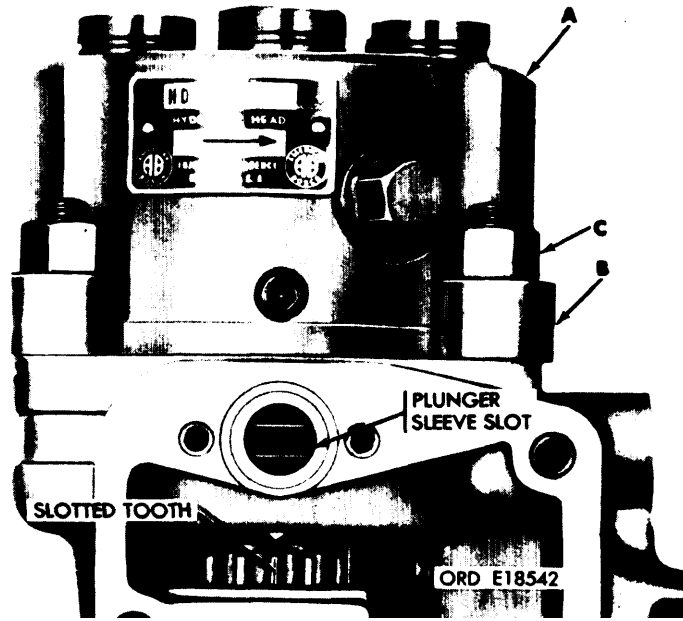

Figure 3-122. Installing hydraulic head assembly.
(1) Refer to figure 3-122. Position hydraulic head assembly (A) on injection pump housing so plunger sleeve slot faces opening, and align slotted tooth of plunger drive gear with arrow on injection pump housing. Install four stud sleeves (B) and hydraulic head nuts (C). Torque tighten nuts to 18-20 foot-pounds.
It is possible to have pointer (A, fig. 3-108) near the timing device hub scribe mark without alinement of arrow and slotted tooth being shown in the housing window (fig. 3-122). If this occurs, rotate the timing device hub one complete turn.